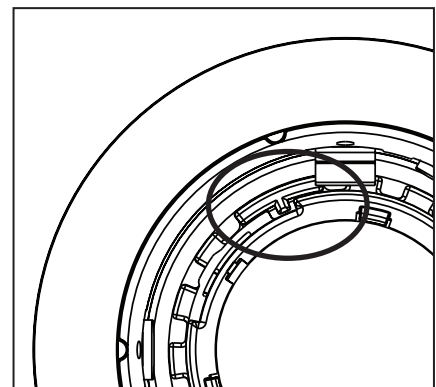

Figure 17
**Step 4.** Align the tabs in the heatsink to the slots in the optic holder and push optic into fixture. Twist optic holder clockwise to secure (Fig. 17).